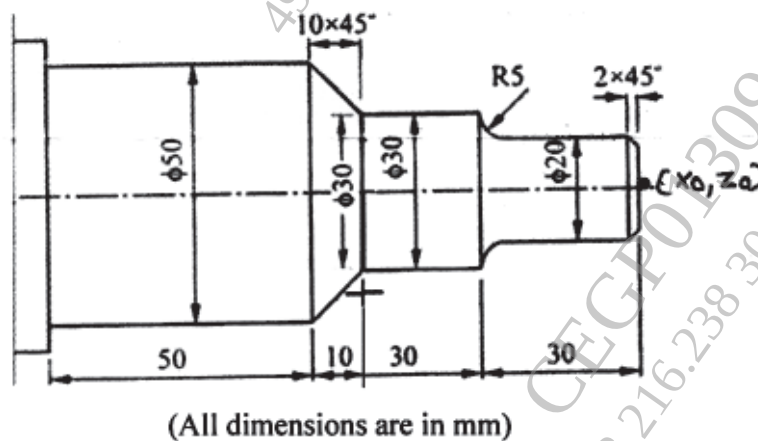

Fig.3
- Q6)** a) Write a CNC program using G and M codes to turn a component shown in fig.3. Assume suitable data for speed and feed and. Use rough and finish cycles. [10]